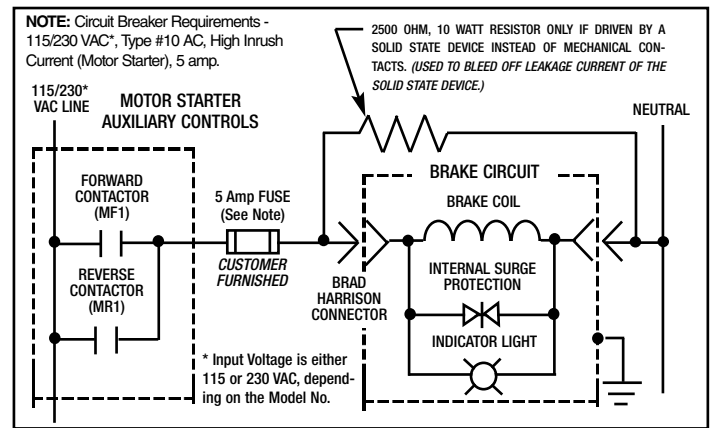

Figure 6 - Electrical Wiring Diagram
If your **MagnaShear Motor Brake** is shipped pre-assembled to a drive motor, it is filled with oil and ready to run except for installing the Air Breather (#45) and electrical wiring. (See Figures 6 and 7 for Electrical Wiring Diagram and Connector.)
3. Connect the electrical service to the Brad-Harrison Connector and actuate the brake coil to release the brake. (See Figures 6 and 7)
4. Evenly torque the (2) Screws in the Clamping Collar (#111) to 20 Lb. Ft.
**IMPORTANT - Make sure that both gaps in the Locking Collar (#111) are the same after torquing the (2) Screws.**
6. Evenly torque the (4) Hex Hd. Mounting Bolts (#166) in an opposite manner to (60 Lb. Ft.)
● **WIRING SPECIFICATIONS** (See Figure 6 and 7)